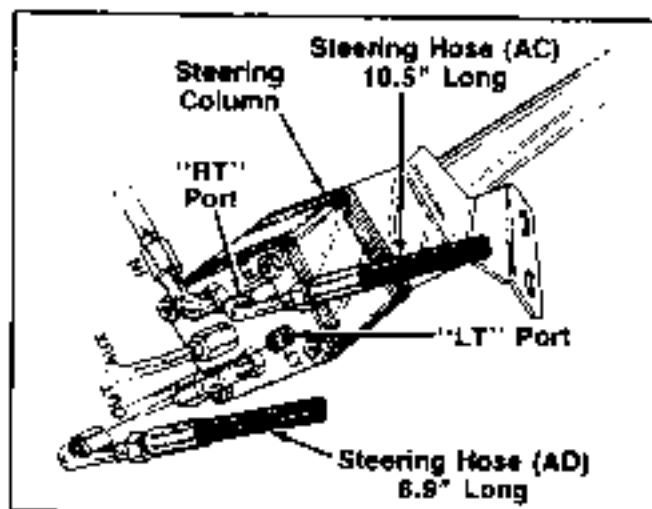

FIGURE 24.
- *9. Assemble the 90° end of steering hose (AC) (10.5 inches long) to the "RT" port on steering column. Tighten securely at this time. See figure 24.
- 20. Assemble the 90° end of steering hose (AD) (8.9 inches long) to the "LT" port on steering column. Tighten securely at this time. See figure 24.